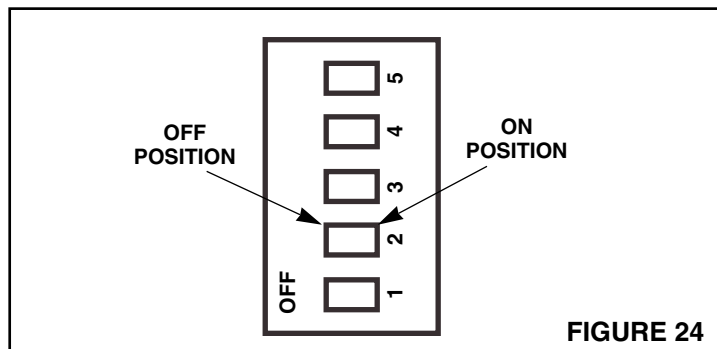

FIGURE 24
1. **Refer to Figure 24.** Locate the Selector Switch on the back of the remote control unit.